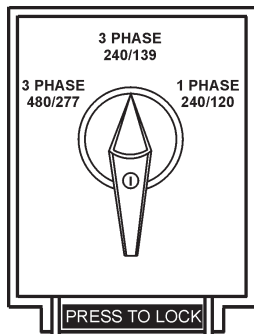

Figure 22. Voltage Selector Switch 240/139V Three-Phase Position
1. Place the voltage selector switch in the 3Ø 240/139 position as shown in Figure 22.
2. Connect the load wires to the **Output Terminal Lugs** as shown in Figure 22.